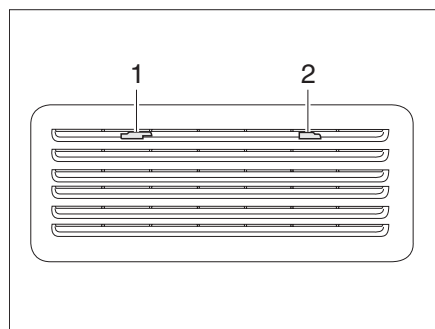
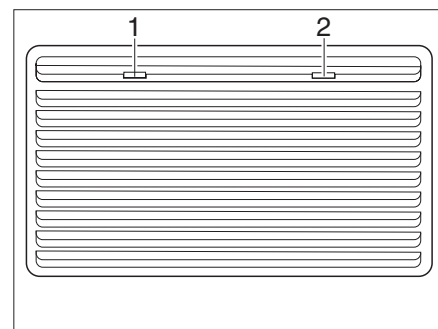

Fig. 138 Refrigerator ventilation grill (Thetford small)
Fig. 139 Refrigerator ventilation grill (Thetford large)
- Slide the locking devices (Fig. 138,1 and 2 or Fig. 139,1 and 2) to the middle.